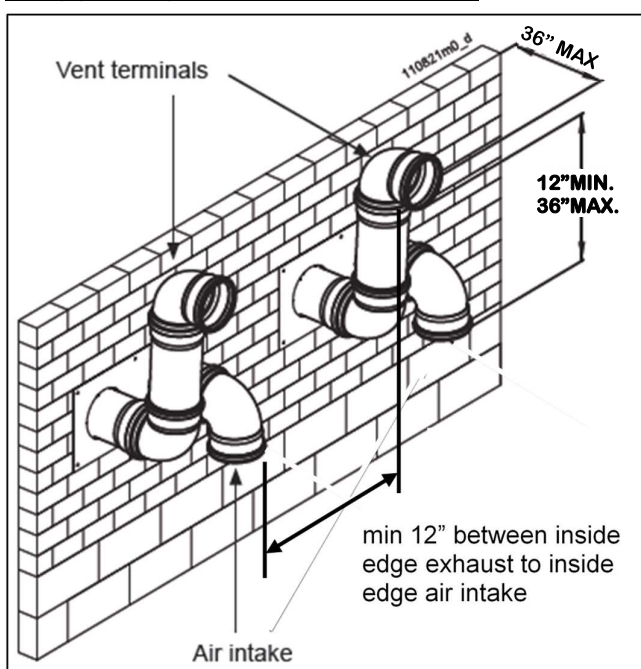

Figure 10.18
1. When terminating multiple boilers, terminate each vent/air connection as described in this manual (Figure 10.18).
2. Place wall penetrations to obtain minimum clearance of 12 inches (305 mm) between the inside edge of the exhaust vent and the inside edge of the air intake elbow, as shown in below Figure 10.18 for U.S. installations. For Canadian installations, provide clearances required by the latest edition of the CAN/CSA B149.1 Natural Gas and Propane Installation Code.
When two (2) or more direct vent appliances are vented near each other, each appliance must be individually vented. Common venting is also possible, see chapter 11. When two (2) or more direct vent appliances are vented near each other, two (2) vent terminations should be installed as shown in figures 10.18 or 10.22. It is important that vent terminations be made as shown to avoid recirculation of flue gases.